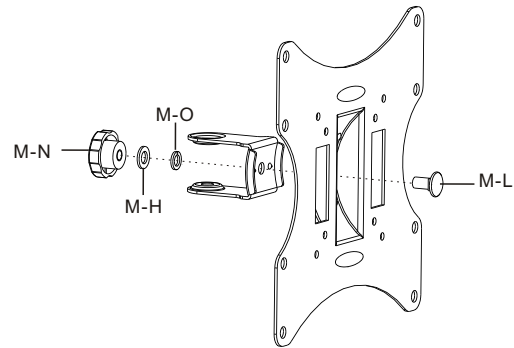

fig. 2.1
- Assemble the adapter bracket with appropriate parts as shown in fig.2.1.